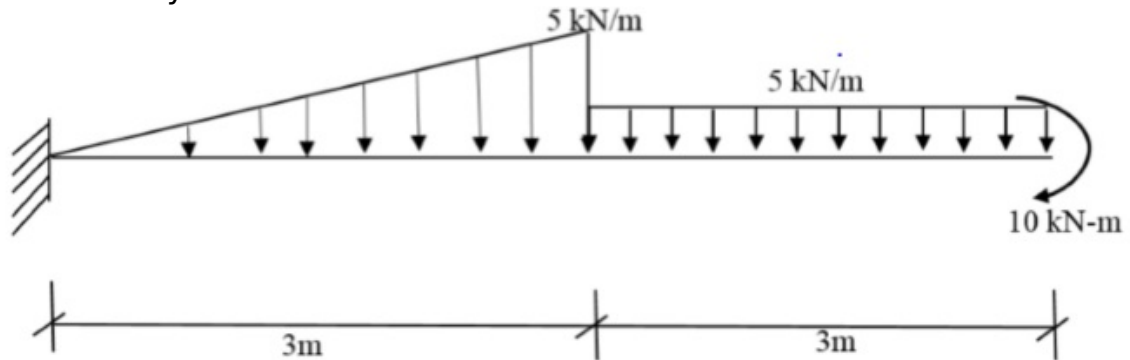

Figure 4a
- 4) Draw the SFD and BMD for the beam shown in figure 4a. Indicate the maximum bending moment and its location. Also indicate point of contra flexure if any. (10)